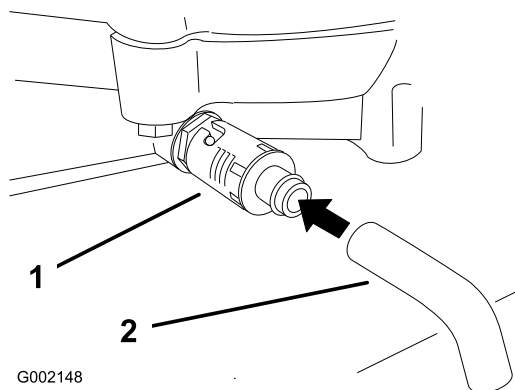

Figure 22
4. Place a pan below the drain. Rotate oil drain valve to allow oil to drain (Figure 22).